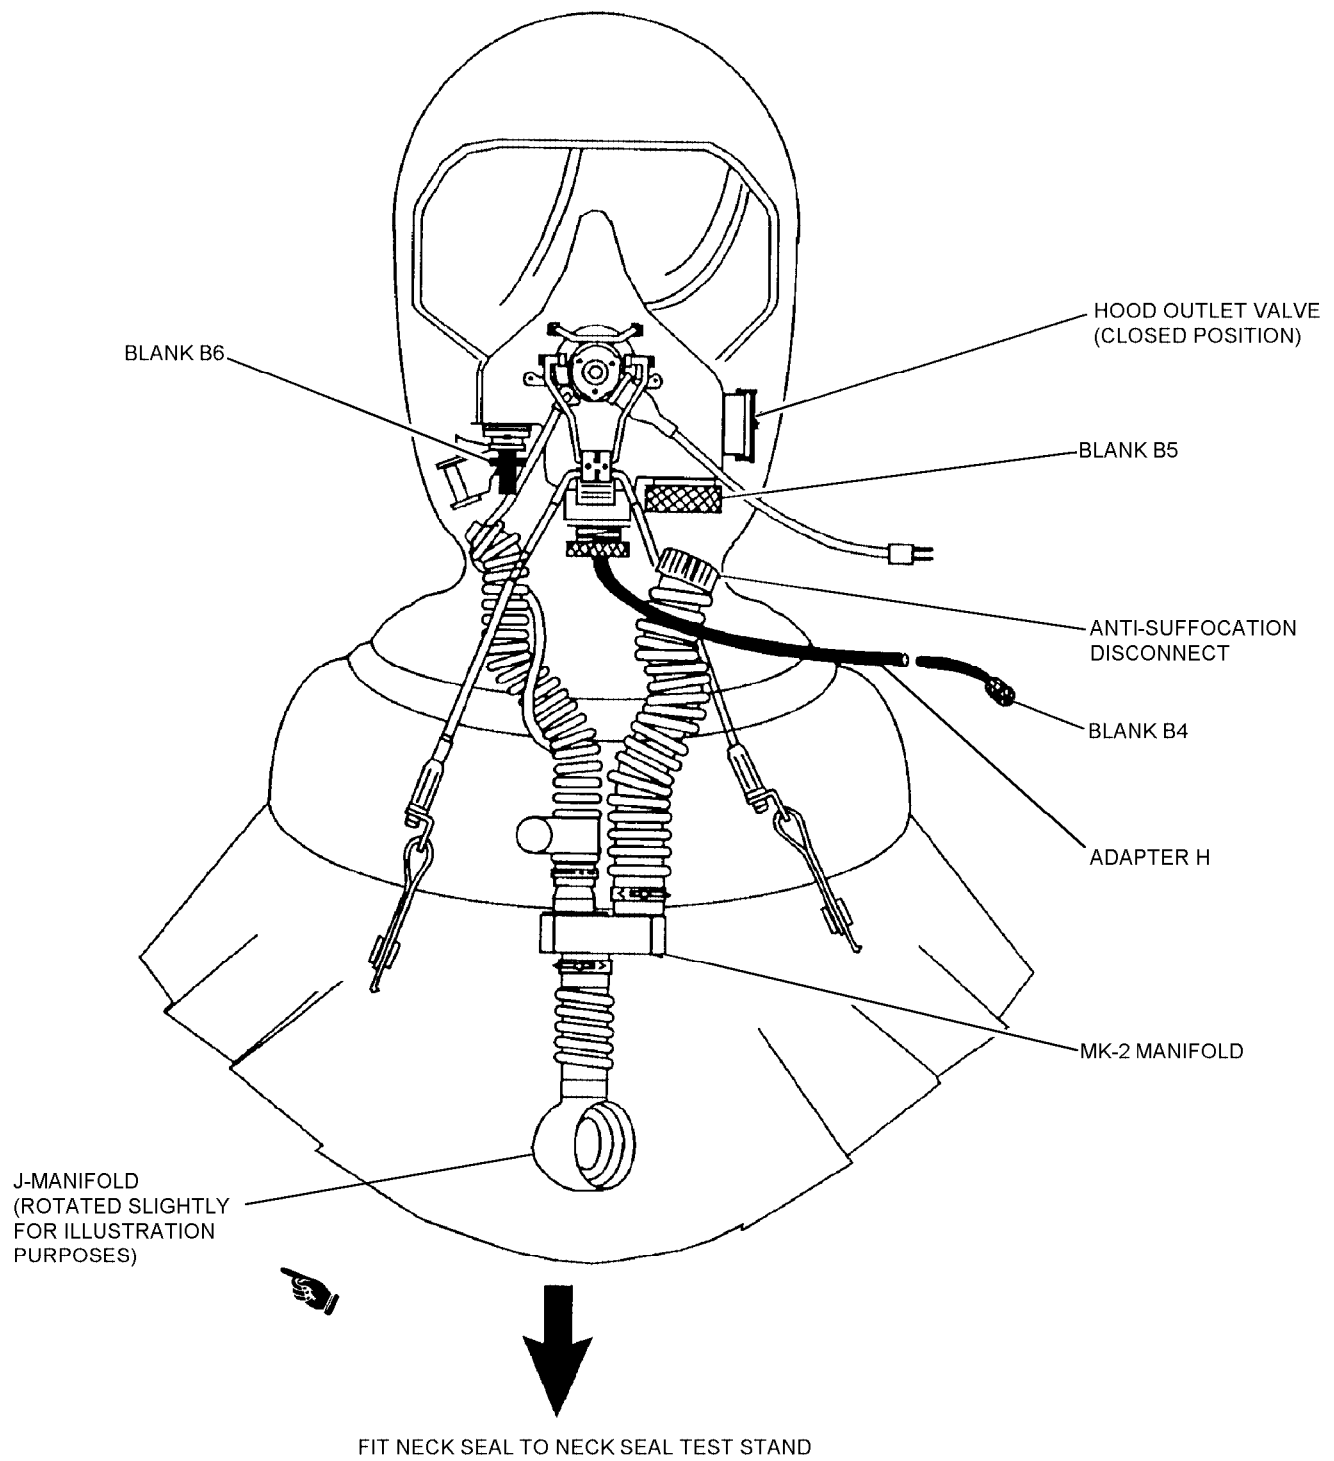

Figure 3-46. Hood Assembly - Overall Leakage Test
9. Fit blank B5 to the mask inlet adapter (figure 3-46).
10. Fit blank B6 to hood inlet adapter (figure 3-46).